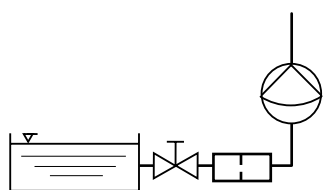

Fig. 6
- Measure the cross section and the length so that the vacuum generated by the suction does not reach the vapour pressure of the feed chemical (cavitation Fig. 6). Excessive vacuum on the intake side is indicated in extreme cases by an interrupted fluid column or incomplete return stroke.